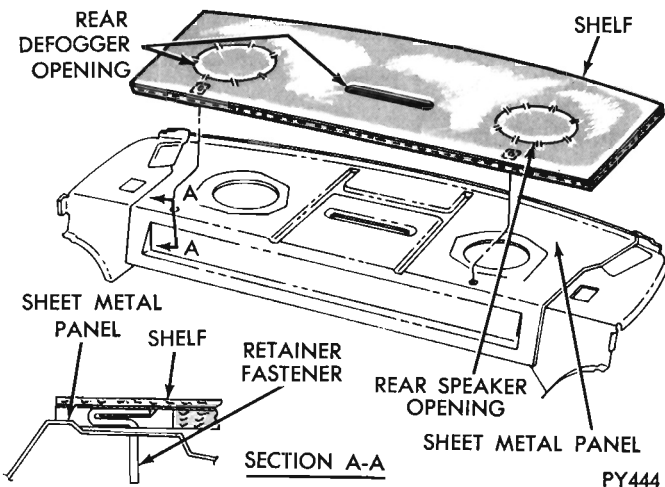

Fig. 2 - Shelf Trim Panel
**Shelf Trim Panel (Fig. 2)**
- (1) Place shelf trim panel face side down on bench.
- (2) Remove gated section of silencer for rear